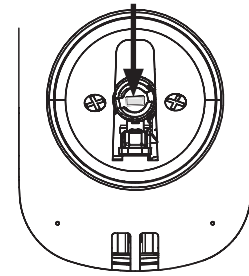

Figure 7
8. Install inside escutcheon on inside mounting plate. Note the horizontal orientation of the tailpiece (Fig. 7) as you insert the inside escutcheon (thumbturn should be vertical).